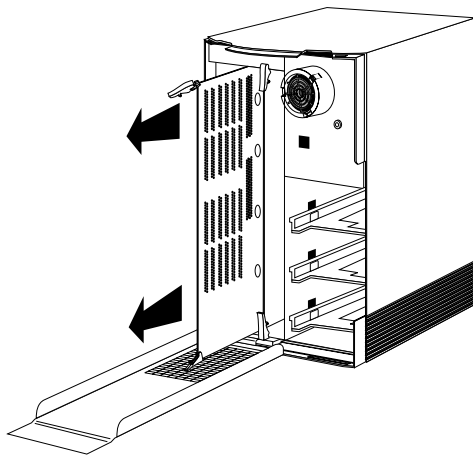

Figure 3-20 Removing the CPU Board From the Indigo Chassis
- Pull the levers toward you to release the board. The board slides out of the chassis as you pull the levers, as shown in Figure 3-20.